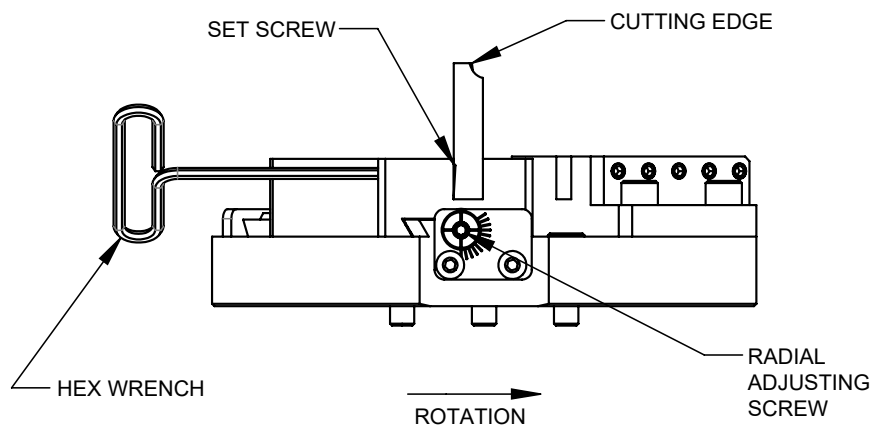

Figure 12: Tool Bit Tightening
6. Tighten the Set Screws to secure the Tool Bit(s) to the Cutting Head (refer to Fig. 12).